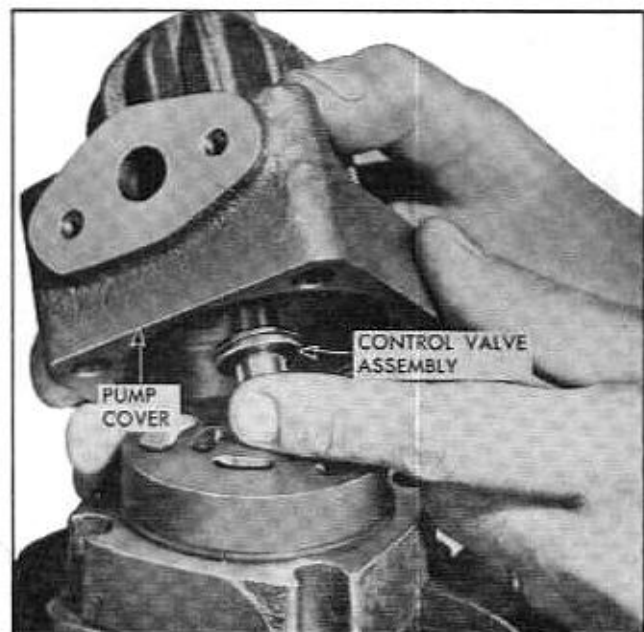

Fig. 9-73 Removing Pump Cover and Valve Assembly
7. Lift pump cover with flow control valve assembly and spring from assembly. Be especially careful to insure that flow control assembly does not drop out (Fig. 9-73).